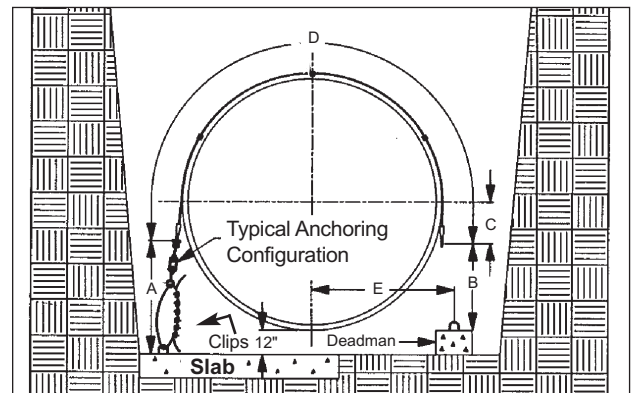

FIGURE 6-1
6.3.2. Placement of Xerxes prefabricated deadmen is the same as standard deadmen. (See FIGURE 6-1.)
6.4.5. Refer to TABLE 6-2 and FIGURE 6-1 for anchor-point dimensions.
6.4.8. When using a concrete base slab, allow sufficient depth in the excavation for 12 inches of bedding material below the tank. (See FIGURE 6-1.)
6.5.4. Data for hold-down straps are given in TABLE 6-2 and FIGURE 6-1.
6.6.4. Locate the anchor points as shown in TABLE 6-2 and FIGURE 6-1. Refer to dimension "E." Align (within a tolerance of ±1 inch) all anchor points with the marked arrowhead symbols ▶◀ on the tanks.